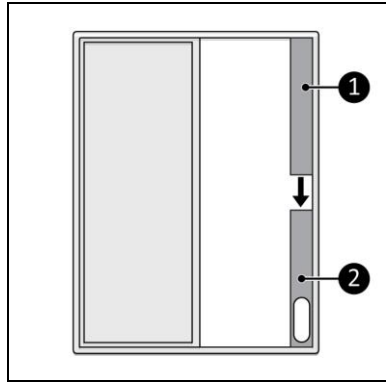

Figure 10
3. Place the included window kit in the opening of the window (Figure 10, pos. 2) use the top part (Figure 10, pos. 1) to adjust to the height of the window.